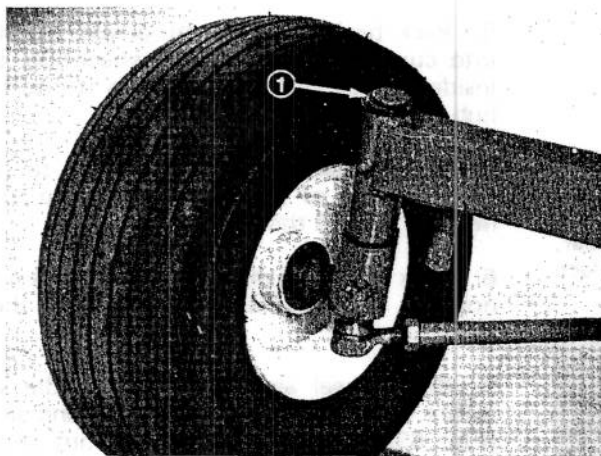

Figure 58
6. Remove cotter pin and slotted nut connecting tie rod end to spindle bracket (Fig. 58). Separate tie rod end from spindle bracket.
7. Remove snap ring and thrust washer holding spindle in axle tube (Fig. 58). Slide spindle and wheel assembly out of the axle tube to expose the bushings. Make sure to account for the thrust washer on bottom of axle tube.